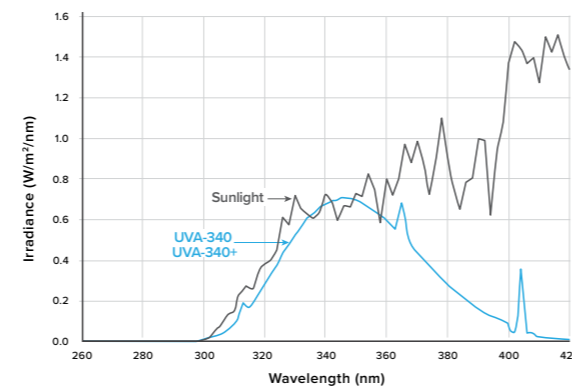

Figure 2 - Noon Summer Sunlight vs UVA-340 Irradiance
- **UVA-340** lamps provide the best available simulation of sunlight in the critical short-wave UV region. The spectral irradiance (also called spectral power distribution, or SPD) of the UVA-340 matches sunlight very closely from the solar cut-on to about 360 nm (Figure 2).